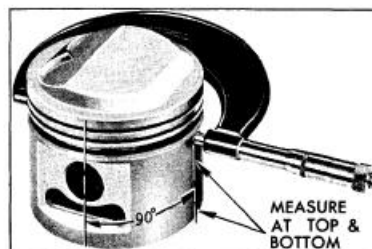

Figure 2-31—Measuring Piston with Micrometer
The pistons are cam ground, which means that the diameter at a right angle to piston pin is greater than the diameter parallel to piston pin. When a piston is checked for size it must be measured with a micrometer applied to skirt at points exactly 90 degrees to piston pin. See Figure 2-31. Measurements should be made at top and bottom ends of skirt; the diameter at top end will normally be very slightly less than at bottom end after a
Before the honing or reboring operation is started, measure all new pistons with micrometer contacting at points exactly 90 degrees to piston pin (Figure 2-31) then select the smallest piston for the first fitting. The slight variation usually found between pistons in a set may provide for correction in case the first piston is fitted too free.
3. Measure the piston to be installed. See Figure 2-31. The piston must be measured at right angles to the piston pin below the oil ring groove.